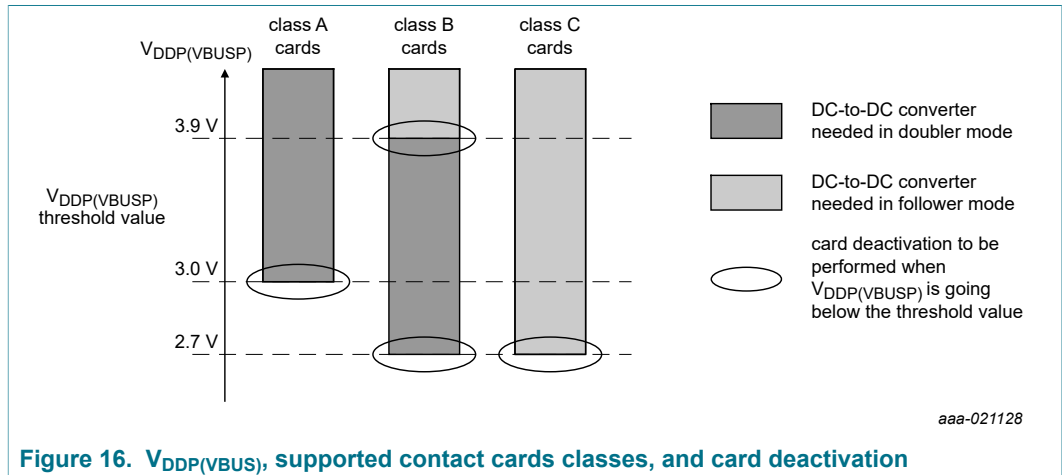

Figure 16. $V_{DDP(VBUS)}$, supported contact cards classes, and card deactivation
- Figure 16 shows the classes that are supported, depending on $V_{DDP(VBUSP)}$.